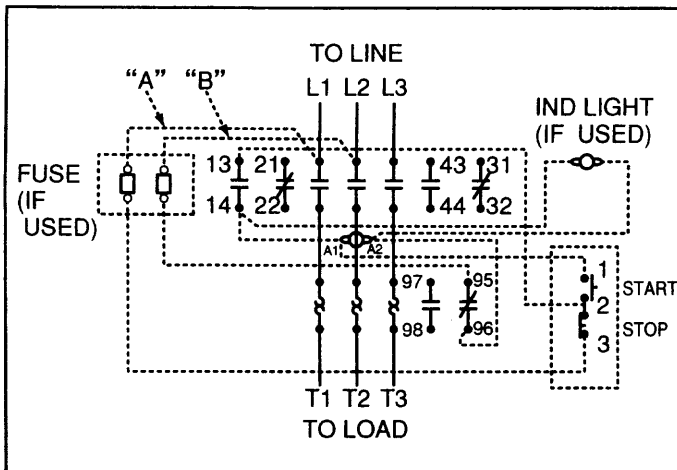

Fig. 5
- 3-wire control circuit is shown in Fig.5.